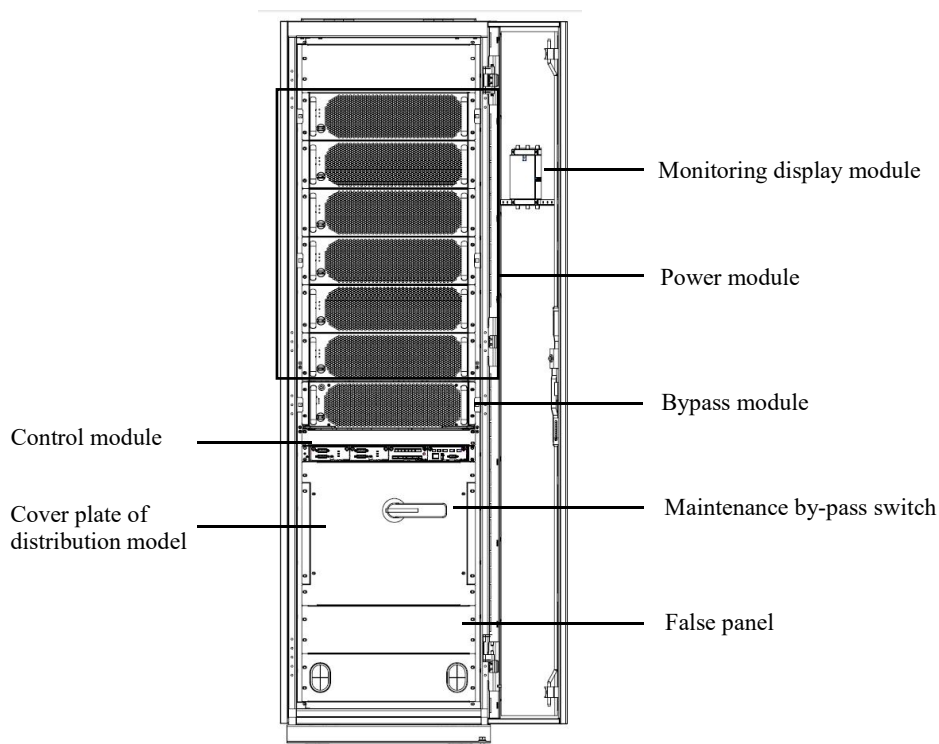

Fig. 1-7 Structure of 300kVA (bottom cable inlet)
4) The structure of 300kVA UPS (bottom cable inlet) is shown in Fig. 1-7 in which the front door of the UPS is opened.